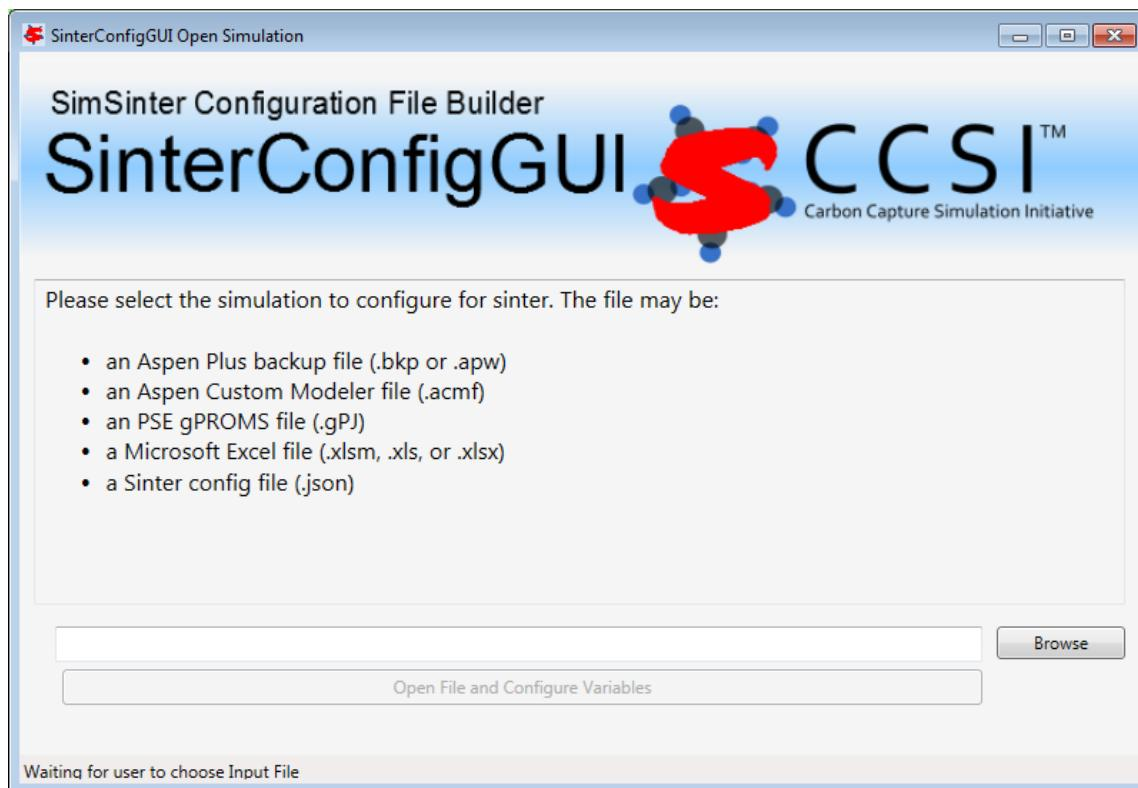

Figure 17: SinterConfigGUI Open Simulation window.
3. The SinterConfigGUI Open Simulation window displays as shown in Figure 17. Click “Browse” to select the file to open, or type in a filename and click “Open File and Configure Variables” to open the file. The user can either open a fresh Aspen Plus simulation (.b kp or .apw file) or an existing Sinter configuration file (.json). In these instructions a fresh copy of the included Aspen Plus flash column test is opened, it can be found at C:\SimSinterFiles\Aspen_Plus_Install_Test\Flash_Example.b kp.